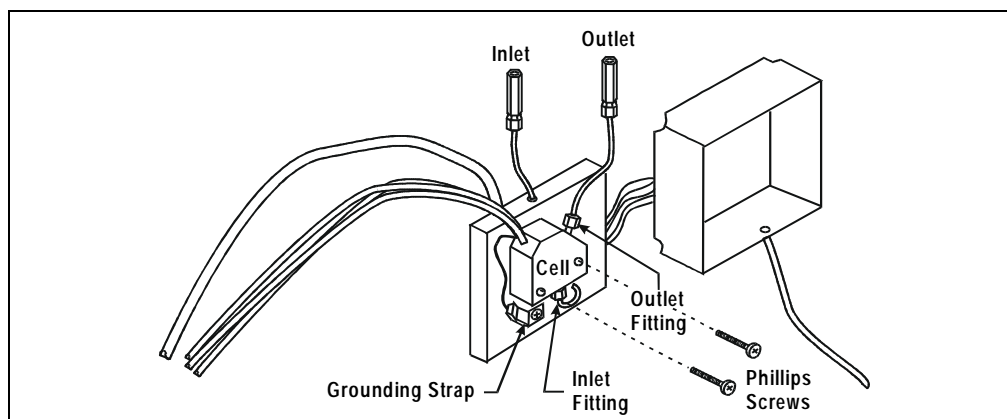

Figure 5-1. DS3 Interior Components
3. Disconnect the DS3 inlet and outlet lines. Do not misplace the ferrule fittings at the end of the tubing (see Figure 5-1).
7. Remove the four Phillips screws securing the top of the box to its bottom plate. Carefully separate the two parts, exposing the cell (see Figure 5-1). Lay the top aside, being careful not to pull or stress the group of wires that connect the two parts.